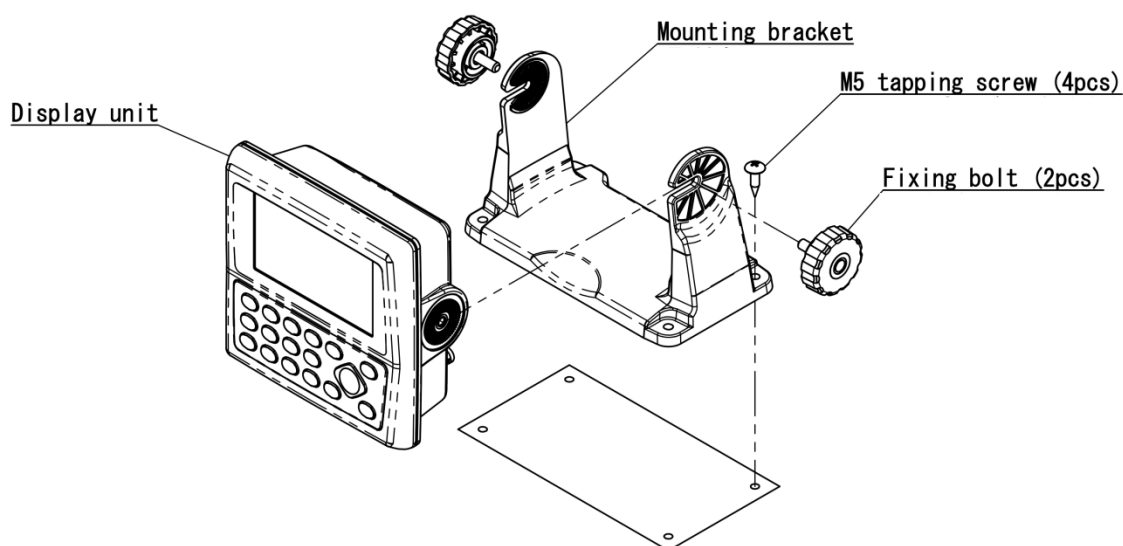

Figure 7.1 Fitting detail of KGP-915 in table mounting mode
The Display unit is designed for table mount and flush mount. Refer to Figure 7.1, 7.2 or 7.3 for installation.
- (1) Remove the two knurled fixing knobs that fix the Display unit to the mounting bracket.
- (2) Remove the Display unit from the bracket and place it on a flat and safe area.
- (3) Place the mounting bracket to the place where the Display unit is to be installed, and fix the bracket with four tapping screws.
- (4) Reset the Display unit on to the bracket and fix it using the two knurled fixing knobs that were removed in step (1). Refer to Figure 7.1 for detail.